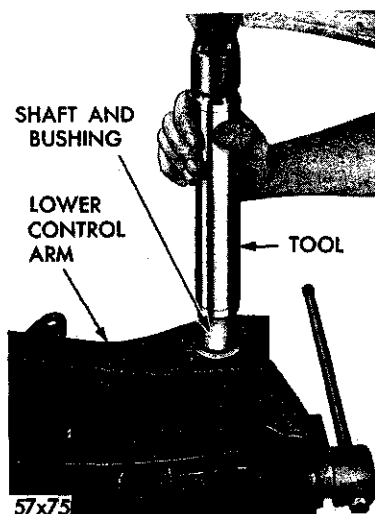

Fig. 10—Installing the Lower Control Arm Shaft Assembly
(1) Position the new bushing over the shaft (flange end first) and seat on the shoulder of the shaft. Install the washer and nut, then tighten to 100 foot-pounds torque. (Hold shaft securely in a vise with protector jaws). Install the cotter pin.
(2) Press the lower control arm shaft and bushing into the lower control arm with an arbor press, or drive into place using Tool C-3556 for Models VC-1, VC-2 and VC-3 or Tool C-3557 for VY-1, and a hammer (Fig. 10).
(3) Press until the flanged position of the bushing is seated, beyond the locking groove.
(4) Thread the ball joint into the new arm using Tool C-3560 for Models VC-1, VC-2 and VC-3; or Tool C-3561 for VY-1.
(5) Tighten to a minimum of 125 foot-pounds torque on Models VC-1, VC-2 and VC-3, and 150 foot-pounds on Models VY-1 until the ball joint is seated (the ball joint will cut threads into the new arm during tightening operation).